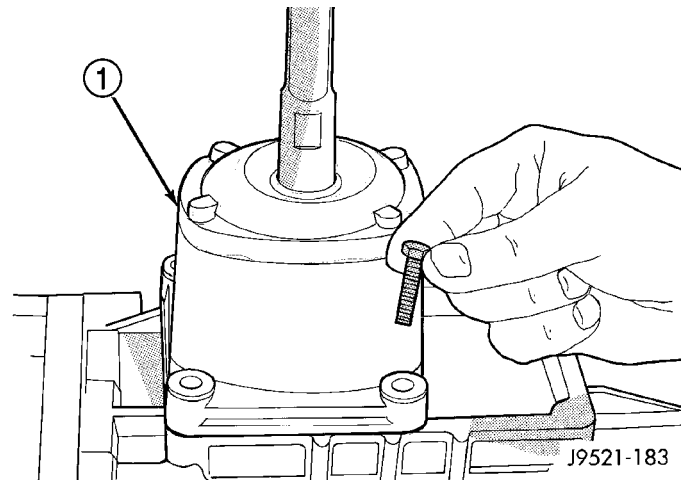

Fig. 129 SHIFT TOWER BOLTS
(4) Install shift tower bolts (Fig. 129). Tighten bolts to 8.5 N·m (75.2 in. lbs.).